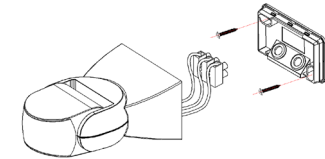

Figure2
- Fix the wall plate to the installation surface. (refer to the figure2).